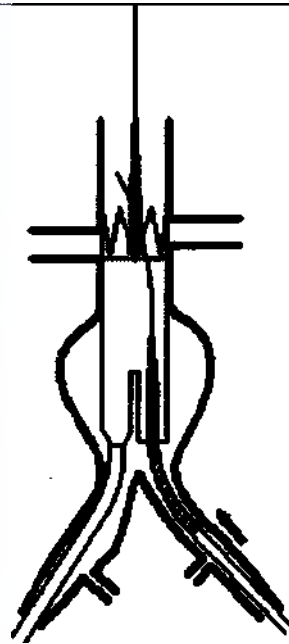

Рис. 10 Введение стент-графта cuff с системой доставки.
- Insert the cuff stent graft with delivery system over guidewire into the short branch of the AAA stent graft. Align the radiopaque marker on the cuff stent with the radiopaque marker on the short branch of the AAA Stent Graft. Ensure that the radiopaque “O-shaped” marker on the cuff stent coincide with the “e-shaped” marker on the short branch of the AAA Stent Graft (Fig. 10)